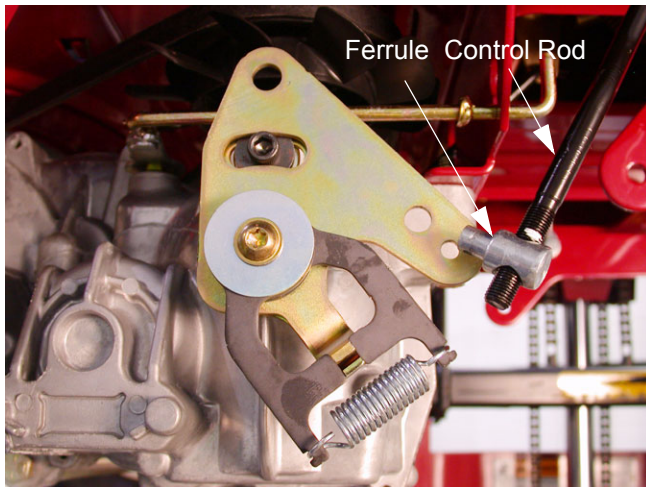

Figure 17.7
17.7. Disconnect the lapbar control rods from the return to neutral brackets. See Figure 17.7.